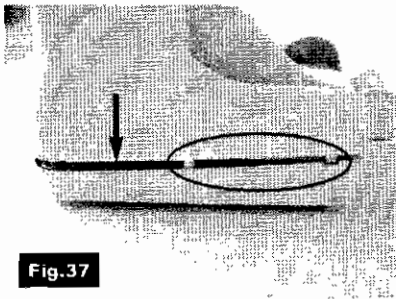

Fig.37
5. Insert the two teeth located on each side of the outer cover, in the base and lock it. See Fig.37 and 28.